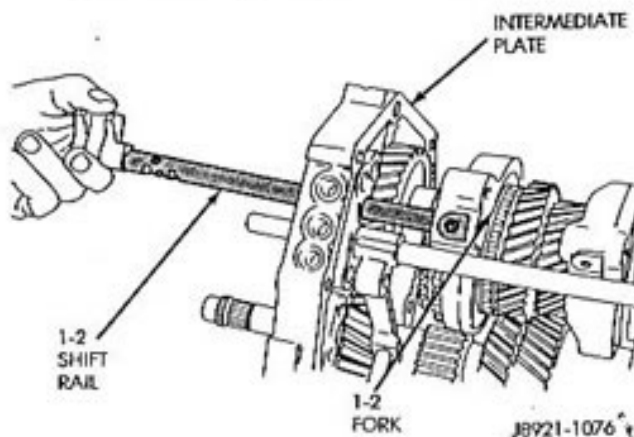

Fig. 46 Removing 1-2 Shift Rail
(6) Remove the 1-2 shift rail from the shift fork and intermediate plate (Fig. 46).